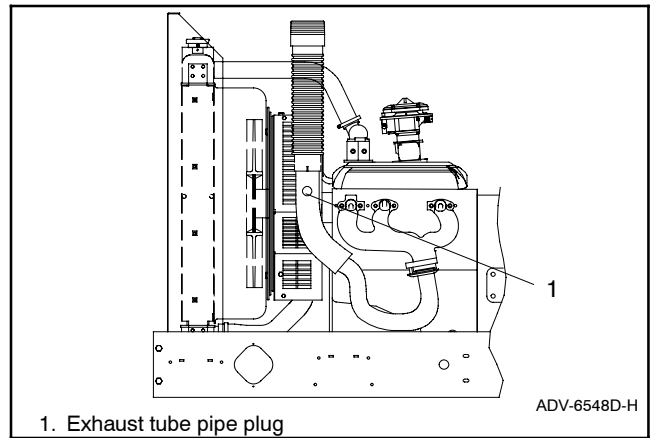

Figure 9-45 Oxygen Sensor Mounting Location, Typical (30 kW model shown)
- a. Remove the oxygen sensor pipe plug from the exhaust pipe. See Figure 9-45 for location.